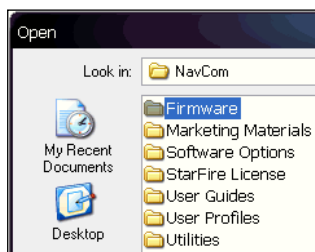

Figure 22: Firmware Folder
42. Browse to NavCom\Firmware on the PC (see Figure 22).